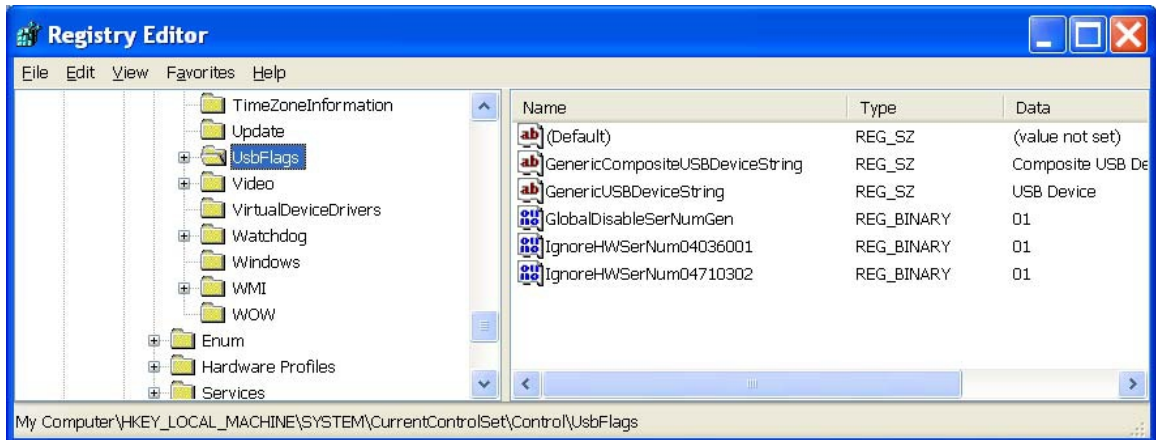

Figure 5-12
11. Add the 2 digits “01” (without quotes) to the dialog box and click “OK”. Ignore what’s already in the dialog box, just add the 2 digits. The results will resemble the display in figure 5-12.